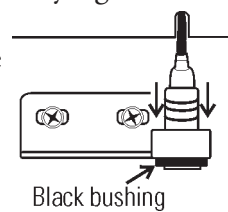

Figure 5-6. Connector
20. Match the pins on the yellow connector with the socket on the door. Press the connector completely into the socket and slide the strain relief down until no yellow is visible on the plug (Figure 5-6).